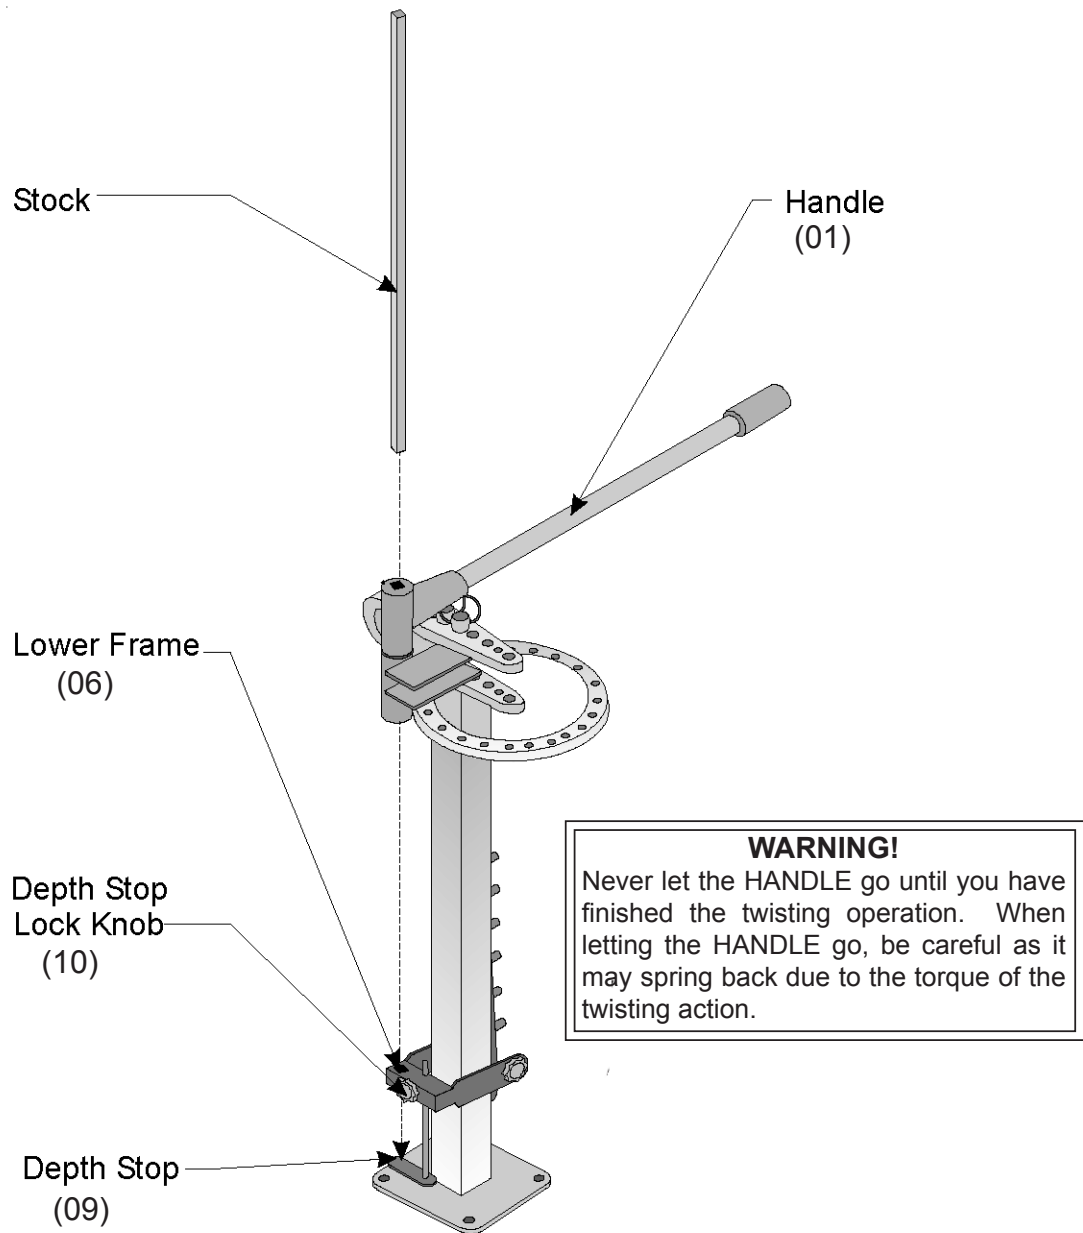

Figure 3 —Operation
- Step 3: Insert stock through the square holes of the HANDLE (01) and the LOWER FRAME T06). See Figure 3.